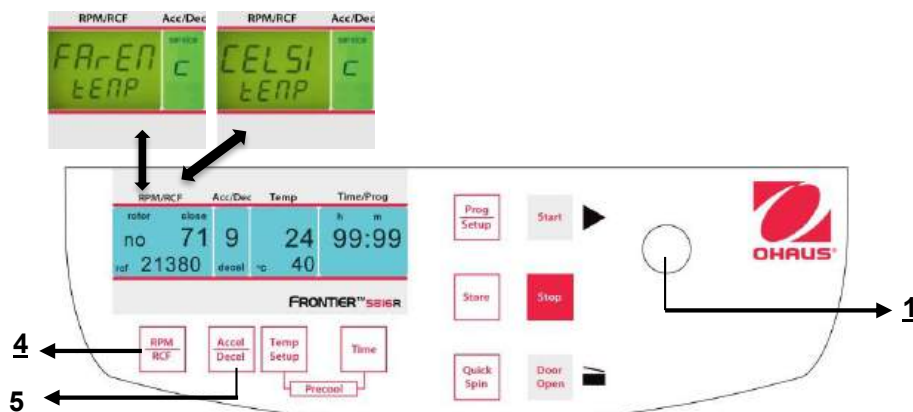

Figure 31
the word **"CELSI"** flashes and you can change the display into Fahrenheit **"FAREN"**, with the adjusting knob (1) (See figure 31).